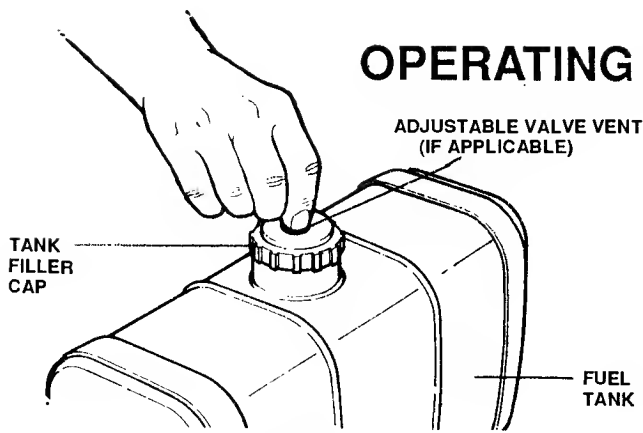

FIGURE 5
2. OPEN VALVE VENT (if applicable) on top of tank filler cap by turning counterclockwise. Make sure the FUEL SHUT OFF VALVE is open. See Figure 5.